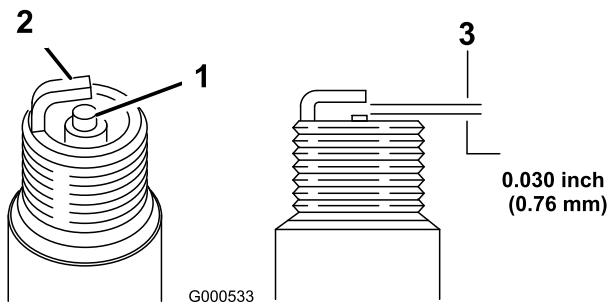

Figure 25
11. Set the gap on the plug to 0.030 inch (0.76 mm) as shown in Figure 25.